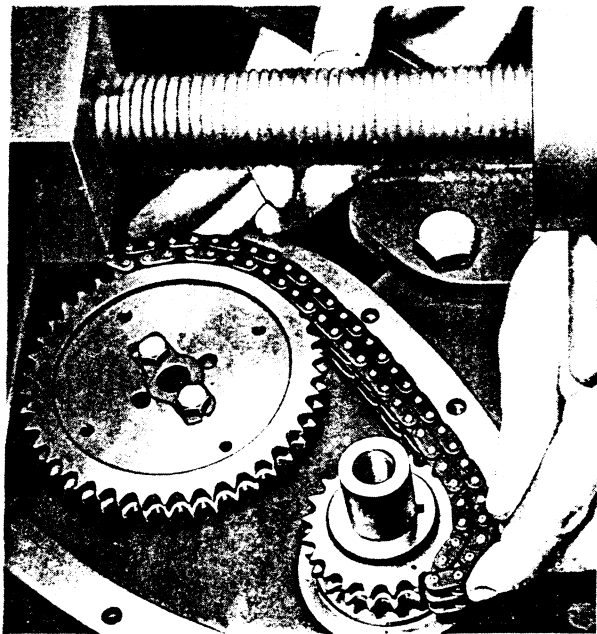

FIG. 27
9. Still without altering position of camshaft, mount sprocket with set screws finger tight and apply chain as shown in Fig. 27. The chain, located on crankshaft sprocket, should engage at least 4 teeth on camshaft sprocket with no slackness. Reversal of sprocket provides four alternative positions on camshaft, giving a location variable by  $\frac{1}{4}$  tooth. The drillings in camshaft sprocket are located so that  $90^\circ$  movement will give  $\frac{1}{2}$  tooth adjustment, while reversal of sprocket will give a further  $\frac{1}{4}$  tooth adjustment in either direction.